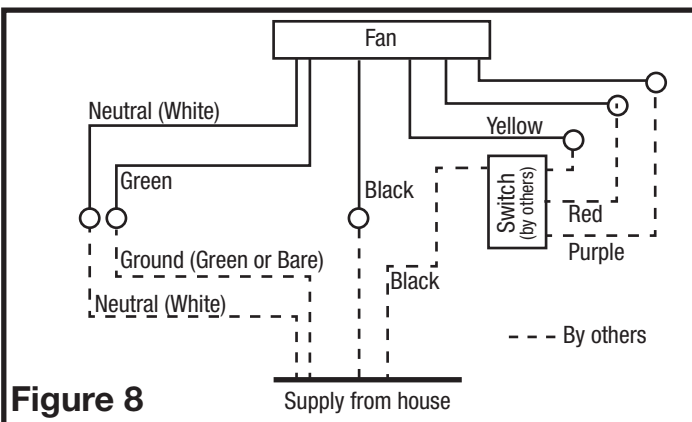

Figure 8
2. Connect the White wire of the fan to the White (Neutral) wire from the power source. Connect the Black wire of the fan to the Black (Hot) wire from the power source. Connect the ground wire from the house to the green wire from the fan housing. Using a properly grounded three function switch (not included) connect the Black wire from the supply to the switch. Connect the Yellow wire (fan) from the fan housing to one of the terminals on the switch. Connect the Red wire (light) from the fan housing to a separate terminal on the switch. Connect the Purple wire (night light) from the fan housing to a separate terminal on the switch (Figure 8). Use approved methods for all connections.